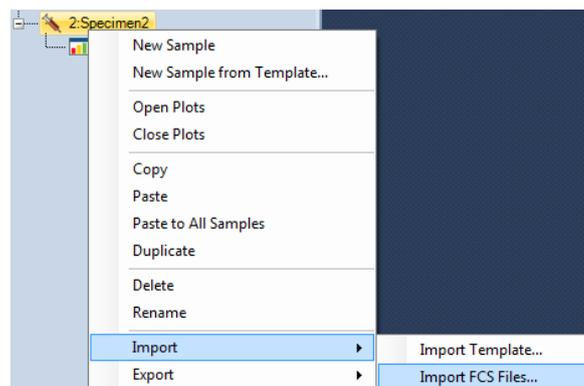

Figure 3-35 Import FCS File
- ▶ FCS 2.0 and FCS 3.0 format files may be imported into NovoExpress™ for viewing and analysis. Create a blank sample or specimen in the Experiment Manager, right-click and select *Import* → *Import FSC File ...*, as shown in Figure 3-35.